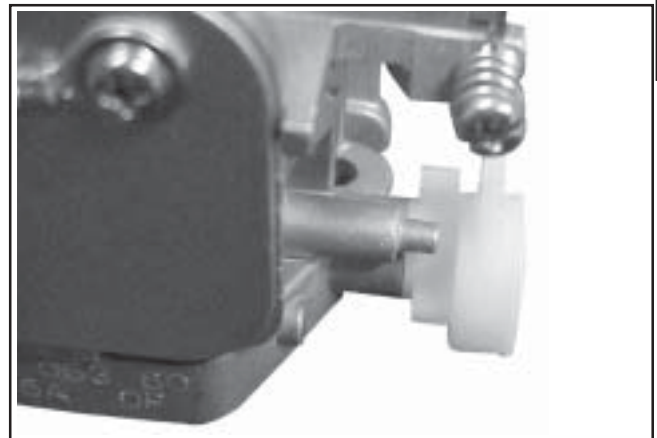

Figure 5-36. Assembling Choke Lever.
7. Insert the new bushing through the new choke lever from the outside, and start the bushing in the outer shaft bore. Position the choke lever so that the protruding boss on the carburetor housing is between the two stops formed in the choke lever. See Figure 5-36.